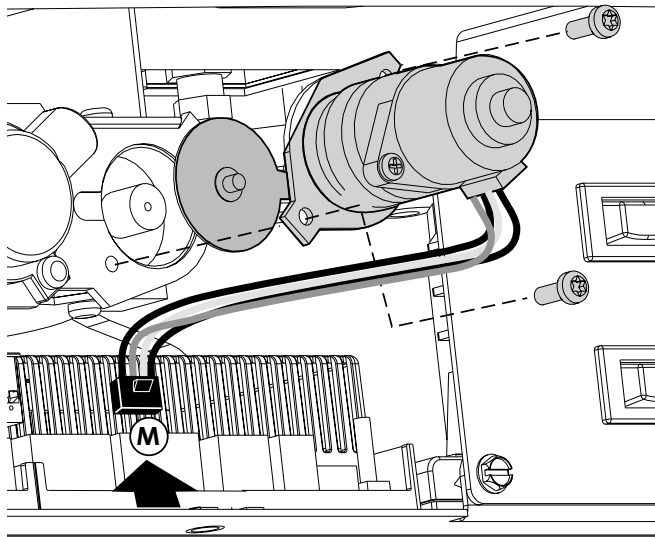

Figure 43. Flame Control Motor installation.
1. Using a Torx T-20 screwdriver, remove the two screws from the front of the manual regulator and remove those components as shown in fig. 43.
3. Connect the wire harness to terminal (M) on the front side of the IFC board.